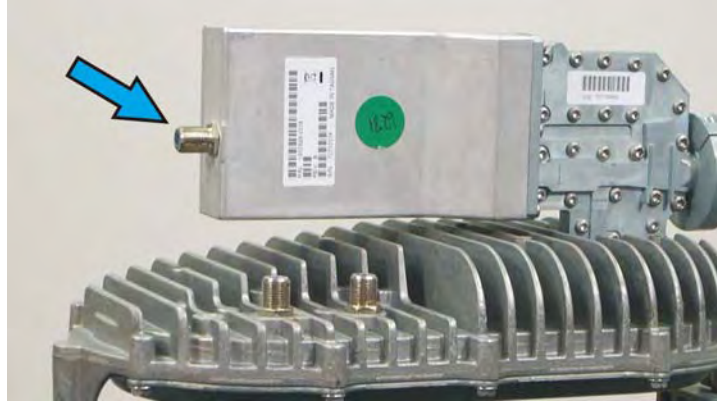

Figure 30: Receive connector
2. Connect the Rx cable (marked with red electrical tape) to the receive connector on the LNB, shown in Figure 30.